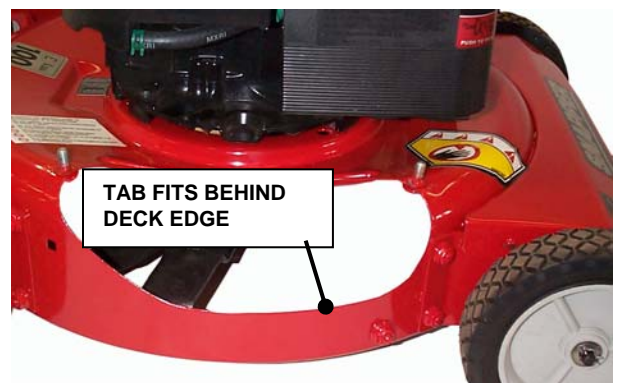

FIGURE 2.8
2. INSTALLATION: When reinstalling the cover, the deck sidewall should fit between the tab and outside of cover. Tighten knobs securely. See Figure 2.8.